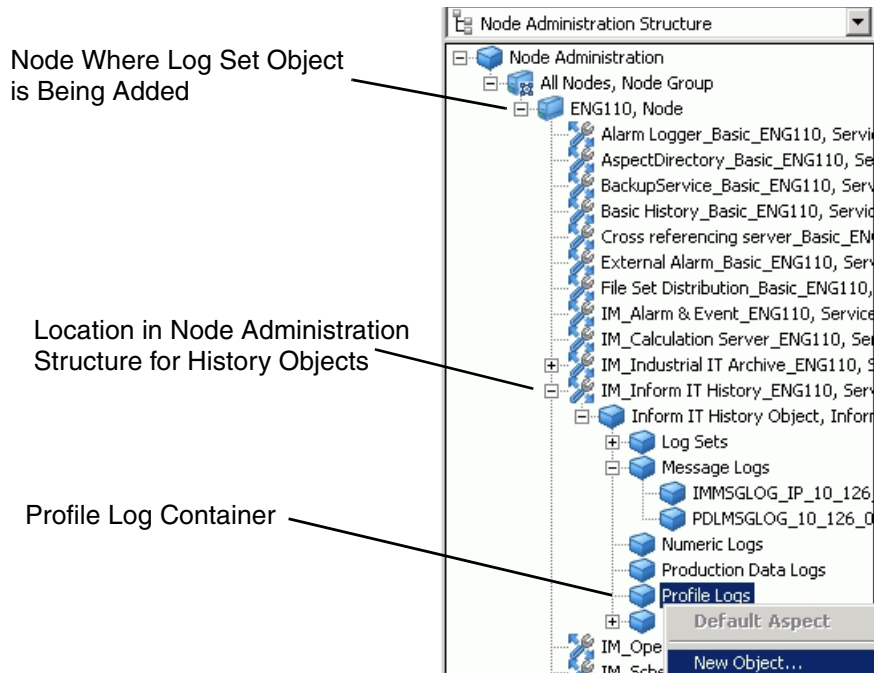

Figure 198. Adding a Profile Log in the Node Administration Structure
Profile logs are added as objects in the Node Administration structure. To do this (reference Figure 198):
2. Navigate to and expand the object tree for the node being added to the Profile Log (for example, ENG110 in Figure 198).